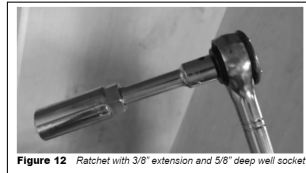
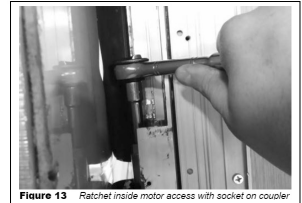

Figure 12 Ratchet with 3/8" extension and 5/8" deep well socket
Figure 13 Ratchet inside motor access with socket on coupler
7. Place a socket wrench with a 3-inch extension and a 5/8" deep well socket (Fig 12) through the motor access opening and seat the socket onto the coupler (Fig 13). One person alternating from side to side of the room can retract a 1500 lb. room with or without a ramp.